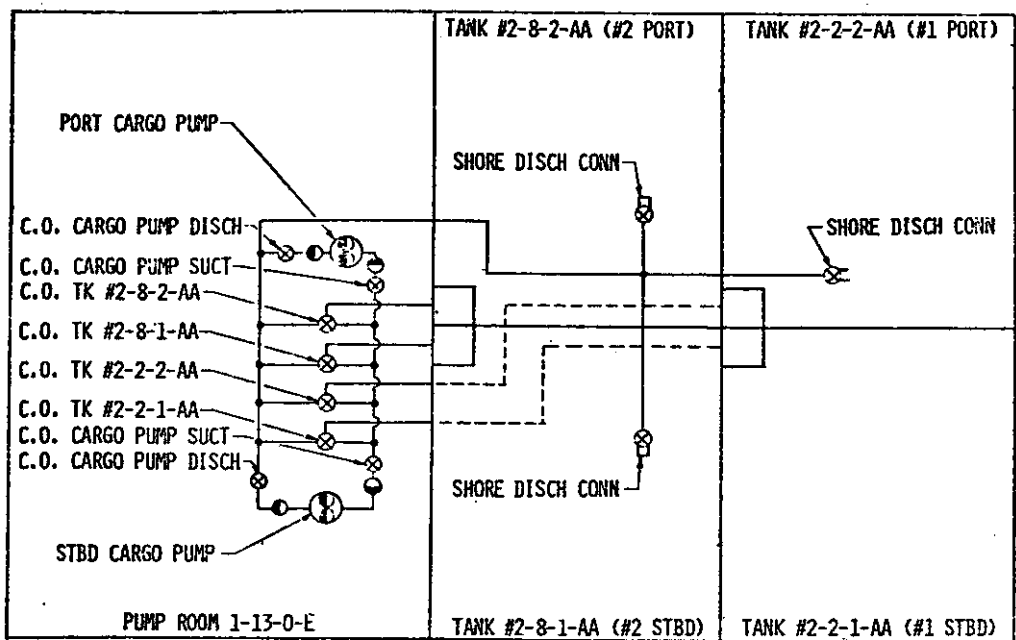

FIGURE A-1
A.2.2 CARGO PIPING LAYOUT. Figure 2-4 is replaced by Figure A-1. Three filling/discharge stations are provided (labeled SHORE DISCH CONN) in Figure A-1.